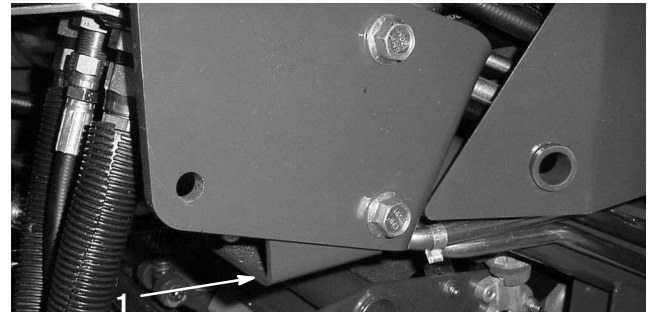

Figure 44
- Right side—under the ROPS support bracket (Fig. 44)